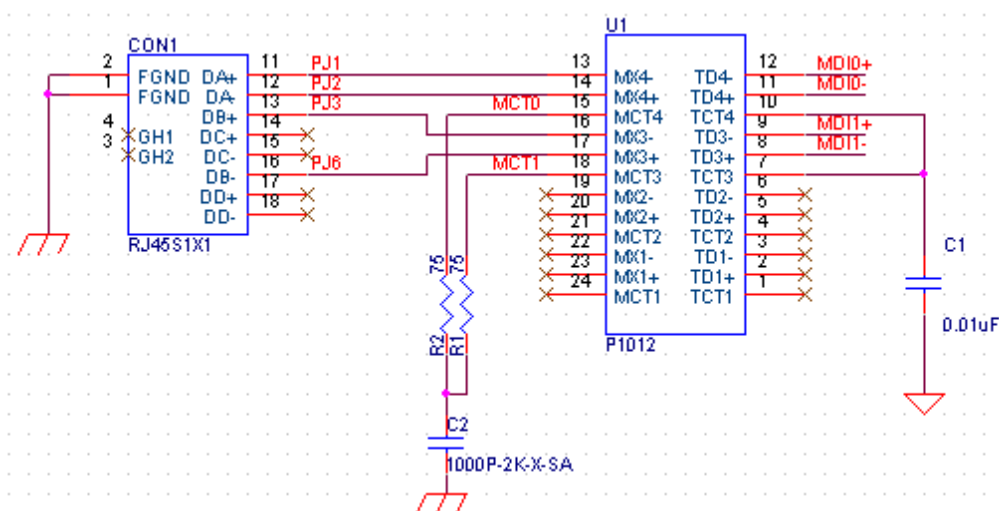

Figure 13. Separate Transformer
- When using a separate transformer, all center-tap pins MUST be aggregated (pins 7, 10; Figure 13) (C1 Value: $0.01\mu\text{F}$ ~ $0.4\mu\text{F}$)